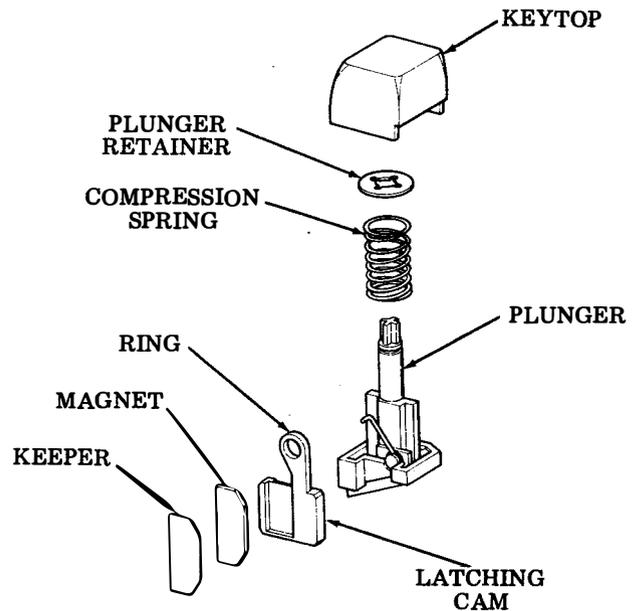

Fig. 46—Latching Keyswitch Removal
- (c) Remove the latching cam by grasping it's ring and pulling cam out of the housing. (Fig. 46.)
- (d) Remove the latch magnet and latch keeper by slipping them off the latching cam. (Fig. 46.)